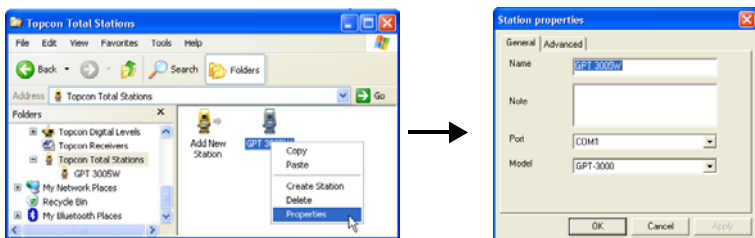

Figure 2-21. Changing Total Station Properties
- A new icon for the Total Station displays in the right panel (Figure 2-21), and a new sub-folder will be created in the *Topcon Total Stations* folder of Windows Explorer. To change the properties (communication parameters, name, model, and so on) for this Total Station, right-click on the icon and select *Properties* on the pop-up menu. The **Station Properties** dialog box for the Total Station is identical to the **Create Station** dialog box for the new Total Station.